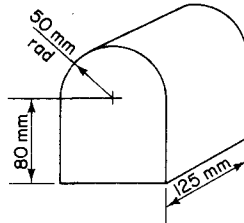

Fig. 1.52
- An iron casting is shown in Fig. 1.52. What is its mass if the density of iron is  $7200 \text{ kg/m}^3$ .